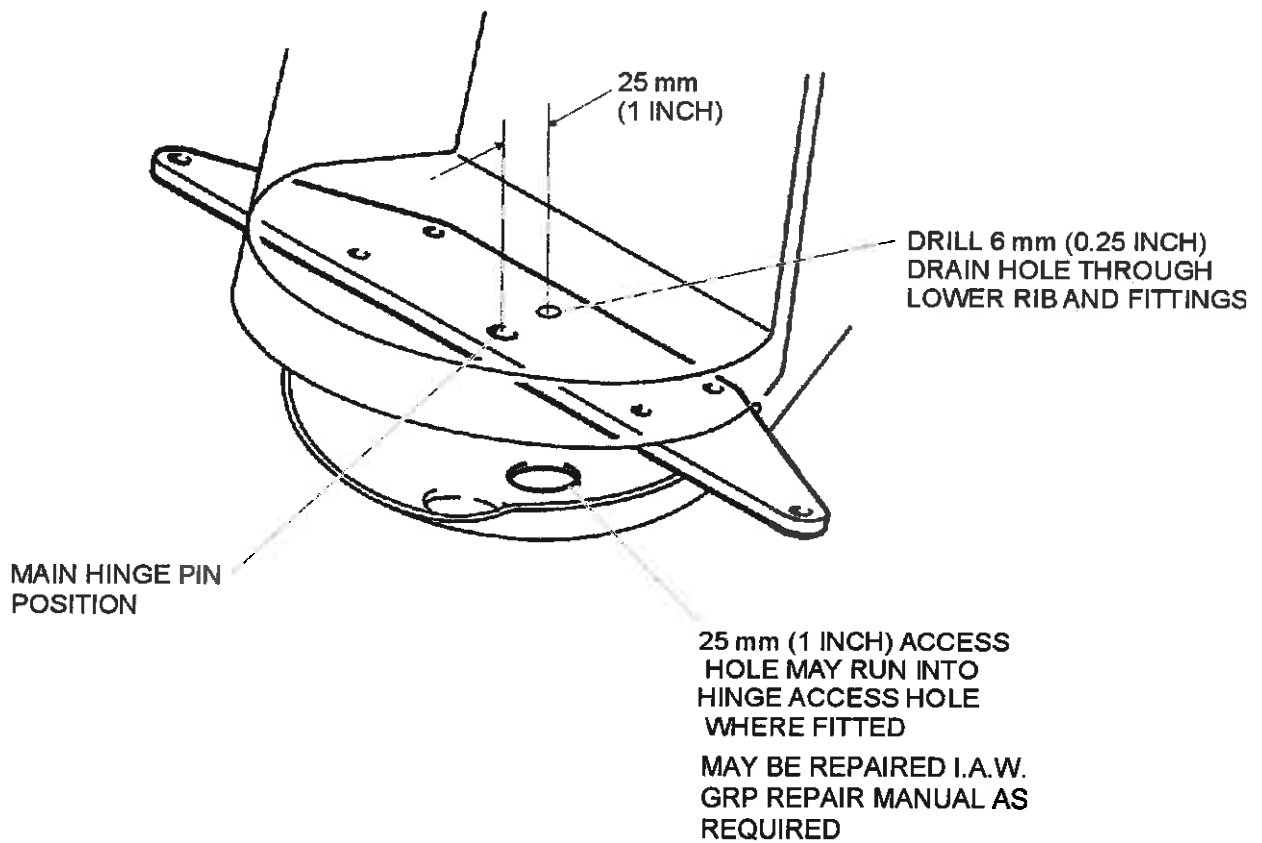

Figure 1 Rudder Lower Hinge
2. Mark position of 6mm (.25 inch) drain hole on the rudder horn. Carefully form a 25mm (1 inch) diameter access hole in the rudder lower fairing on centreline. Ref Figure 1. This hole to be as directly under proposed drain hole as possible.
3. Carefully drill 6mm (.25 inch) diameter hole in the leading edge of the lower rib as shown in Figure 1.